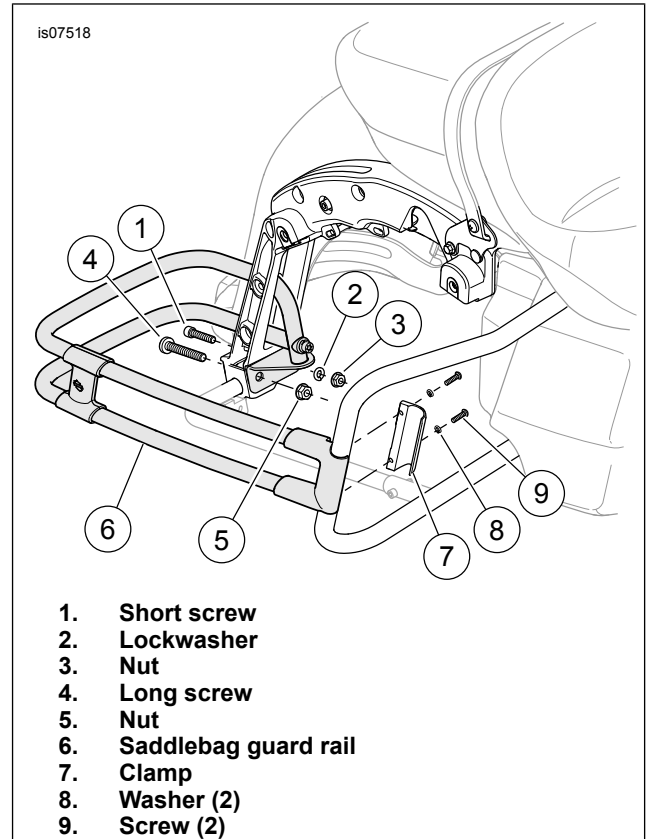

Figure 2. Saddlebag Guard Rail
1. See Figure 2. Remove screw (1) and nut (3). Discard hardware.
4. See Figure 2. Install guard rail to saddlebag support.
- a. Install guard rail to saddlebag support. Secure with short screw (1), washer (2) and nut (3). Leave fasteners loose.
- b. Install original equipment (OE) long screw (4) and nut (5). Leave fasteners loose.
5. Mount the front of the guard rail (6) to the saddlebag support rail.
6. Tighten screw (4) and nut (5) to 40.7–50.2 N·m (30–37 ft-lbs).
7. Tighten screw (1) and nut (3) to 20.3–27.1 N·m (15–20 ft-lbs).